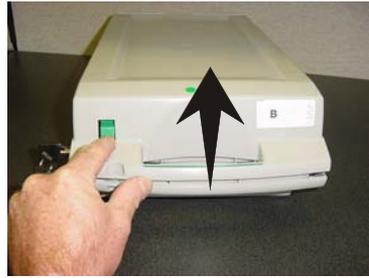

Figure 4-8. Release button.
1. Insert the key into the cassette lock. (Figure 4-7) To unlock the cassette, apply inward pressure on the key while turning it clockwise to the stop position (approximately a quarter-turn). Open the cassette by simultaneously pressing the release button and lifting the lid. Flip the lid back fully, allowing it to rest on the table or other flat surface. (Figure 4-8)